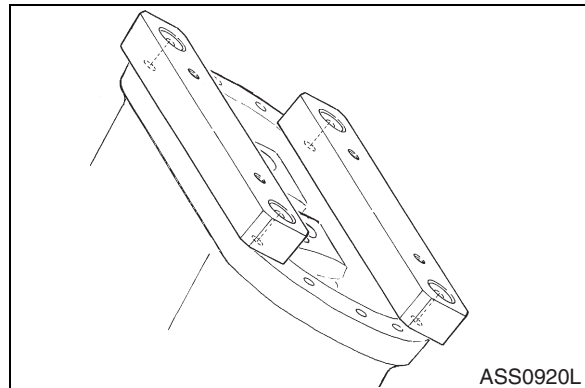

Figure 98
B. Only Size 140 - 200 (Figure 98).